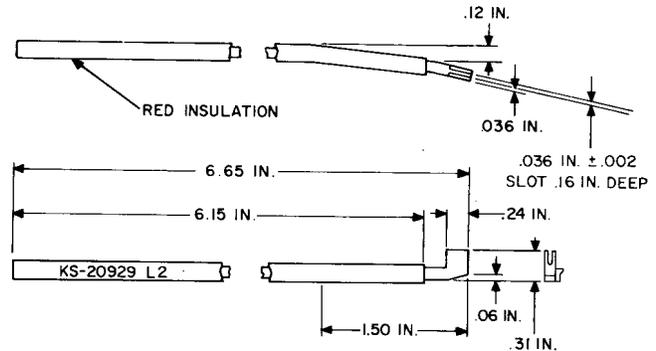

Fig. 16—KS-20929, L2, Adjuster Tool
**2.16 KS-20929, L2:** The KS-20929, L2, adjuster tool (Fig. 16) is used for adjusting heavy springs and the armature backstop on the 221 FAE relays.